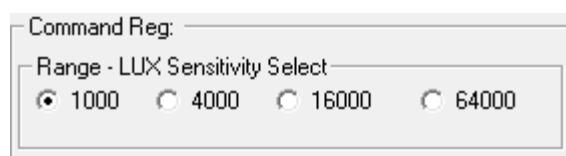

Figure 9. Sensitivity Range Select
- **Sensitivity-Range Select** - Allows you to choose the sensitivity of the sensor based on external conditions/object detection. For example, a really bright object would require a higher range, such as 64000, versus a dark object that requires a lower range, such as 1000. A higher range reduces photo detector sensitivity, see Figure 9.